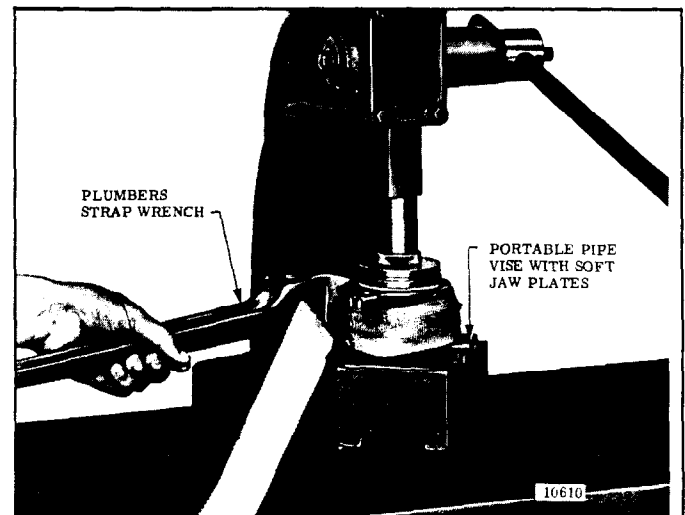

Figure 5-10. Winding Load Brake Gear Using a Strap Wrench to Set Up Load Brake Spring.
(4) The brake spring must be pre-loaded at assembly to a torque of from 10 to 14 lb.-ft. This is accomplished using a plumber's strap wrench to wind (rotate) load brake gear to set up spring (Figure 5-10) while pressing brake flange into place using an arbor press. Clamp pinion end of shaft into a portable vise to keep brake from rotating in press. Use brass or copper jaw plates on vise to protect pinion gear teeth. Wind gear counterclockwise (viewing brake from flange end) with strap wrench and press down on flange until snap ring groove in shaft is exposed allowing snap ring to be installed. Use extreme care not to over wind spring as yield will result and final spring torque will be reduced. Do not wind gear beyond point necessary to install snap ring in groove.